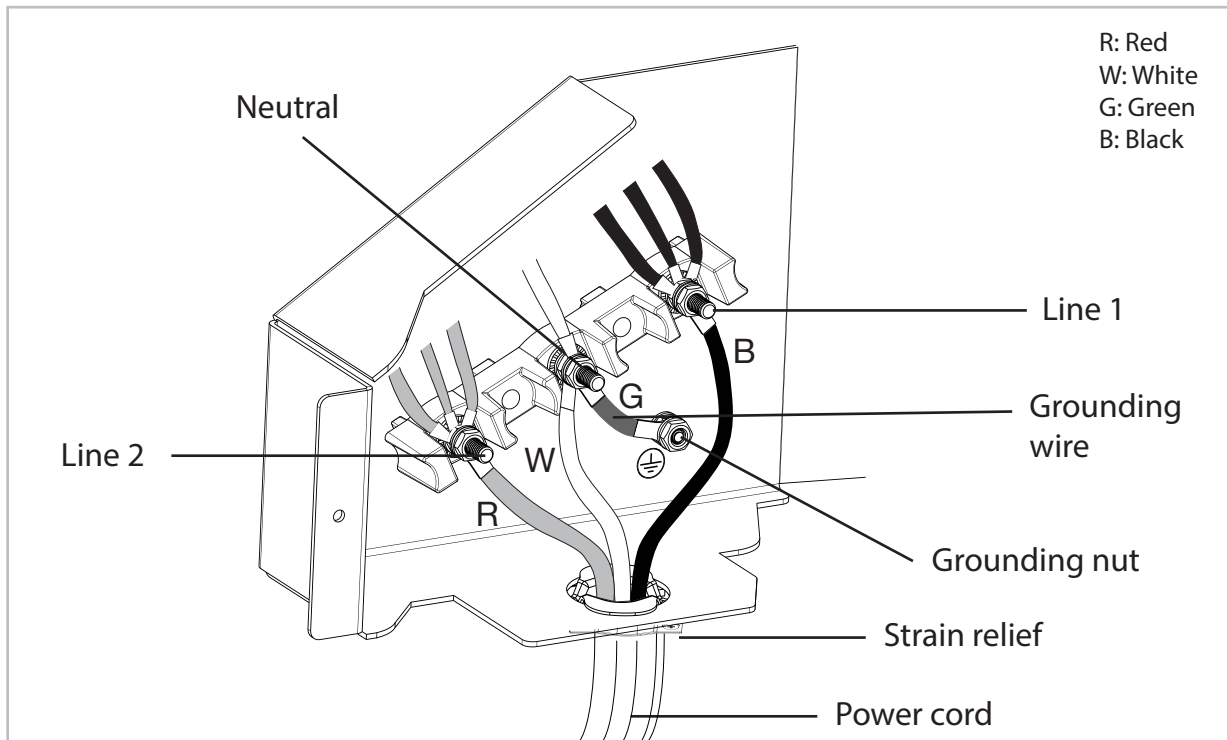

Figure 7 - Three wire connection
4.See Figure.7 for 3 wire power connection and figure.8 for 4 wire connection.